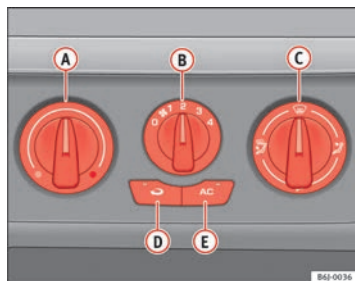

Fig. 102 Air conditioning controls on the dash panel
- Using the controls ⇒ Fig. 102 **A** and **C** and with the switch **B** you can adjust the temperature, the air distribution and the blower speed.